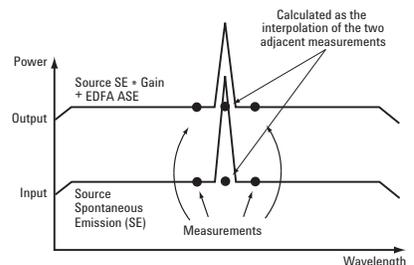

Figure 3. Use of linear or quadratic fit interpolation to determine the spontaneous emission levels
In order to correctly determine the noise figure, the ASE level must be measured at each signal wavelength. However, this cannot be measured directly because the signals mask the ASE level at the peak wavelength. Thus, the noise figure measurement made by the application is based on interpolation, either linear or quadratic. The ASE of the amplifier at each signal wavelength is determined by measuring the total spontaneous emissions (SE) at a wavelength just above and just below each signal, and then interpolating to determine the level at each signal wavelength (Figure 3).